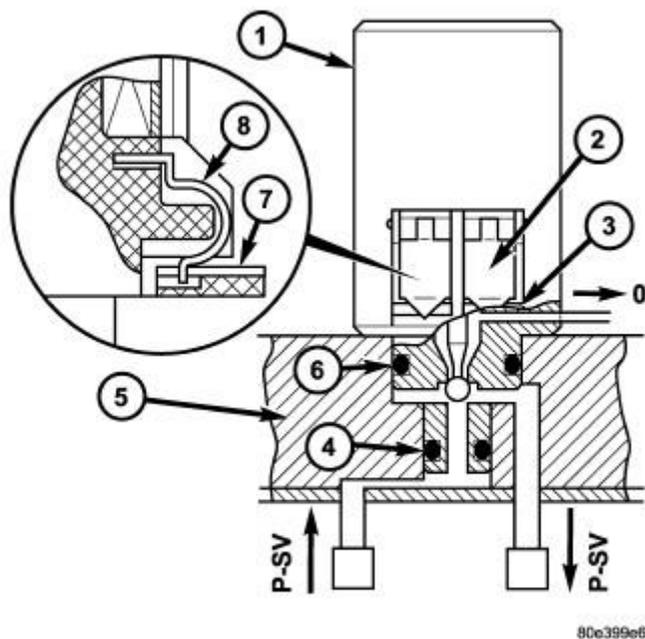

Fig. 200: Cutaway View Of Upshift/Downshift Solenoid Valve
The solenoid valves (1) for upshifts and downshifts are located in the shell of the electric control unit and pressed against the shift plate with a spring. Refer to **Fig. 200**.